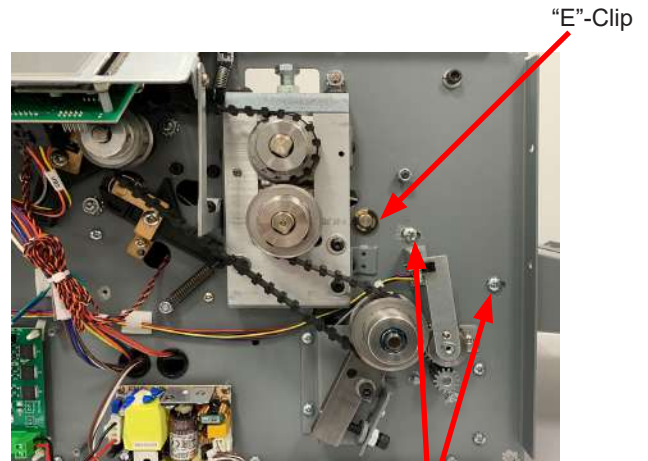

Fig. 50a
4. Loosen stacker mounting screws to release tension on belts (Fig. 50a & 50b).
9. Remove the "E" clip on the operator side of the upper conveyor drive shaft (Fig. 50a).
13. Remove the four screws holding the stacker table in position and remove the stacker table (Fig. 50a & 50c)